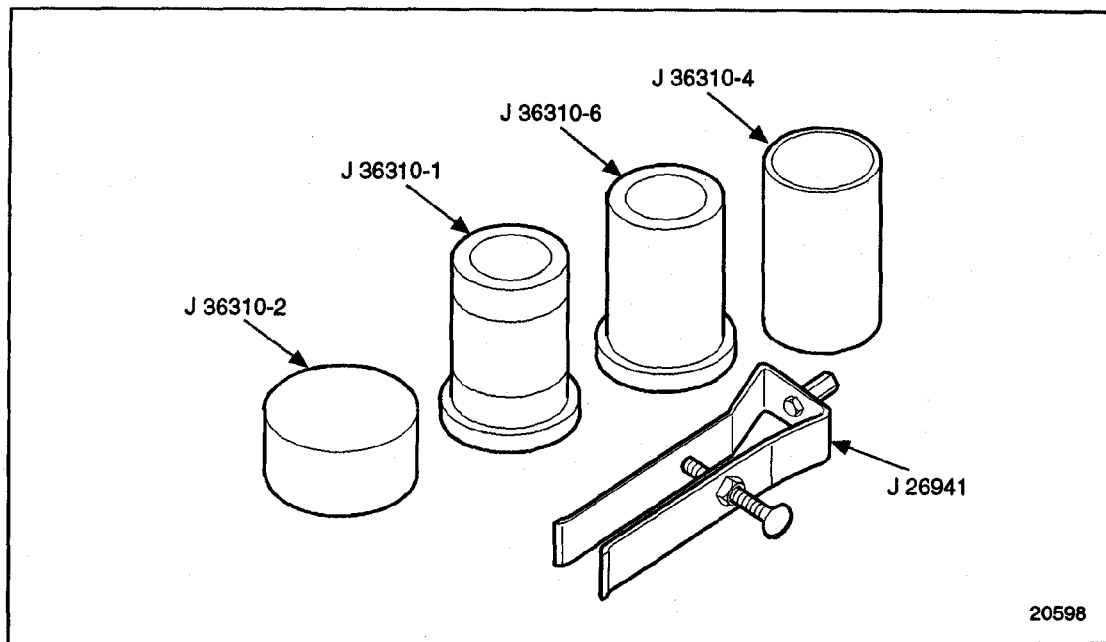

Figure 10-18 Air Compressor and Fan Drive Service Tool Set
8. Use the air compressor and fan drive service tool set, J 36310-A, for disassembly. See Figure 10-18.